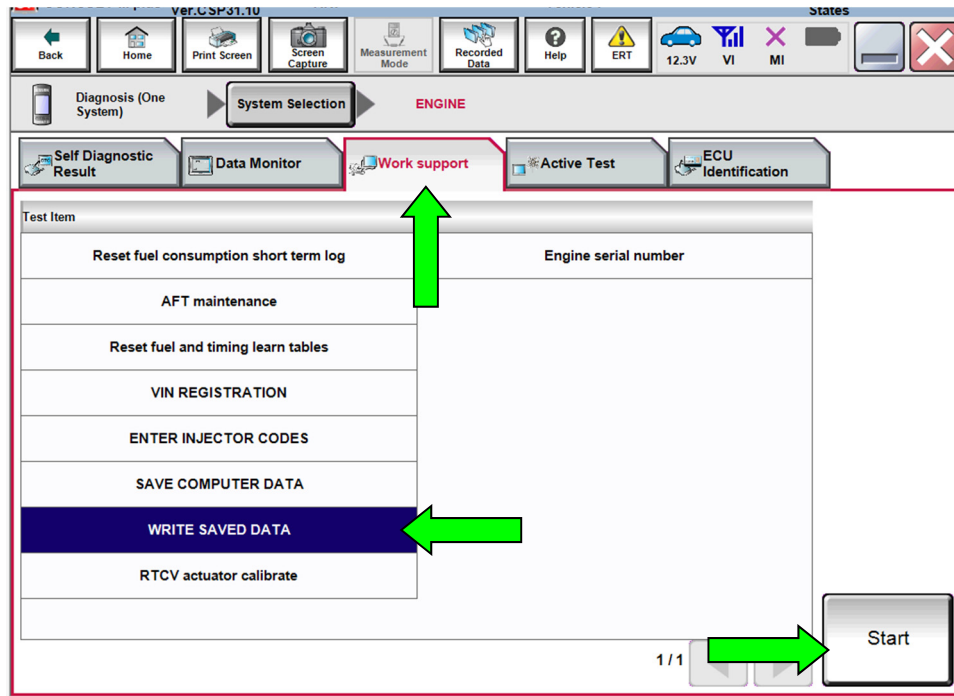

Figure 10
19. Navigate C-III plus to **ENGINE > Work support** (see Figure 10).